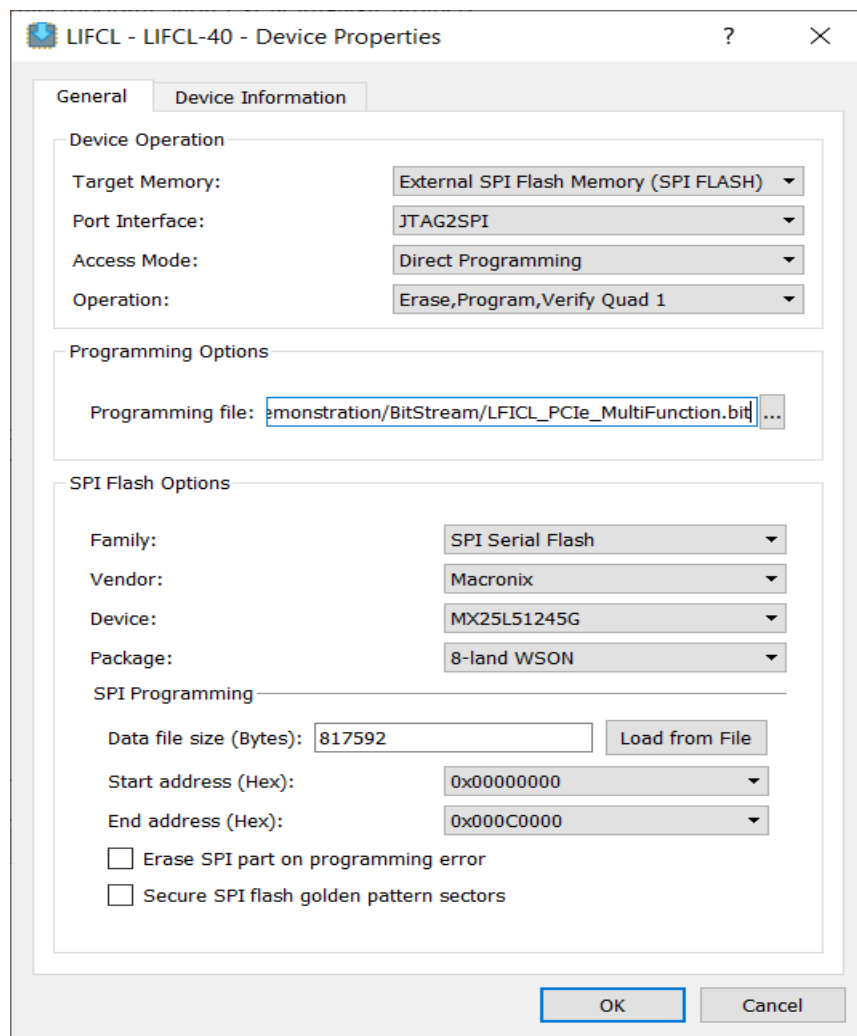
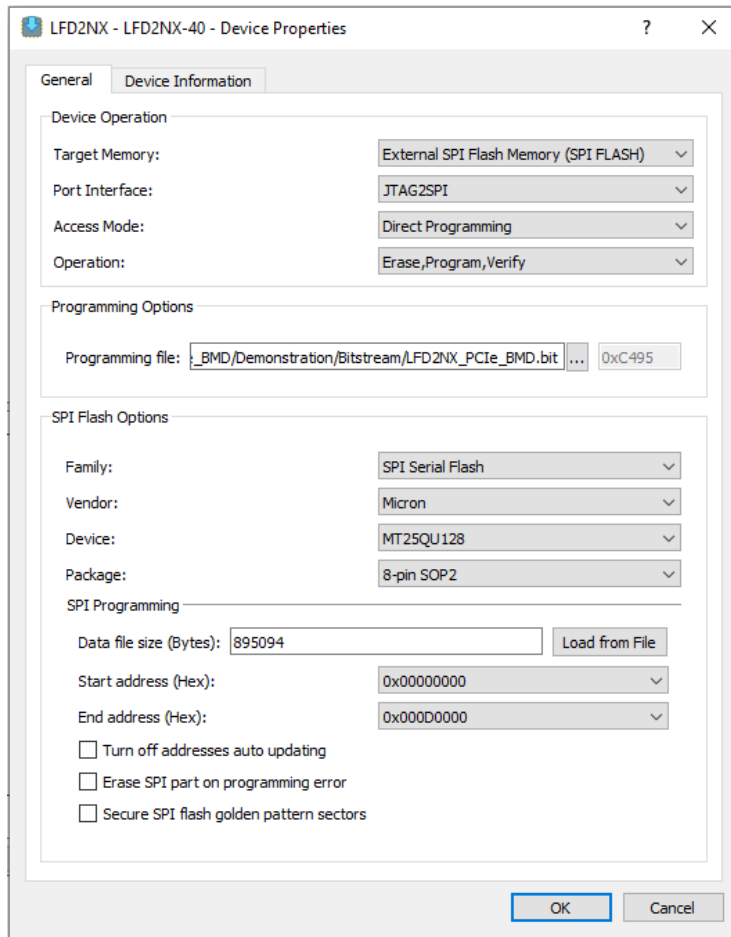
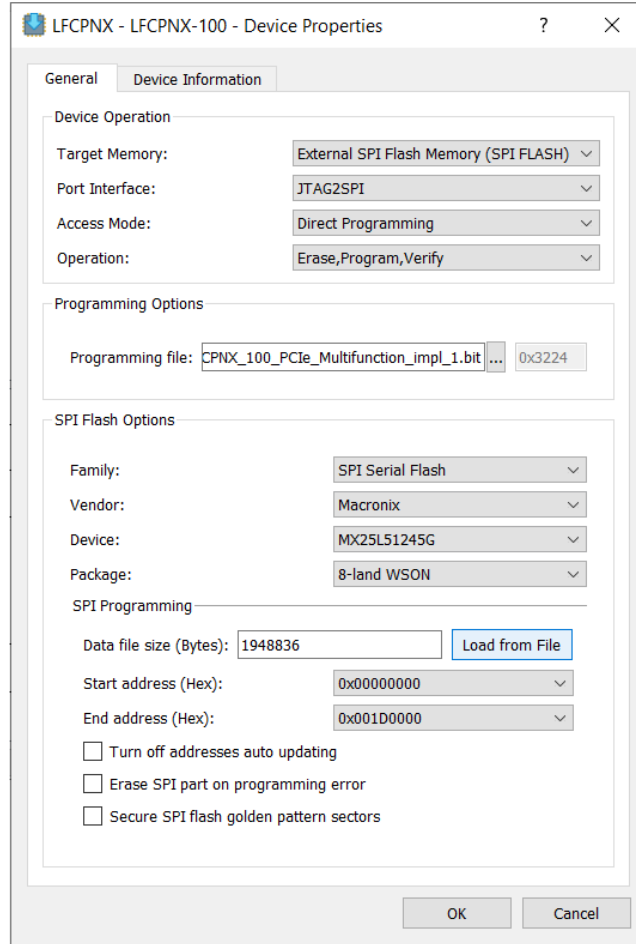

Figure 5.12. Device Properties Window for CrossLink-NX SPI Flash Programming
Figure 5.13. Device Properties Window for Certus-NX SPI Flash Programming
Figure 5.14. Device Properties Window for CertusPro-NX SPI Flash Programming (with Macronix Flash)
4. Select the settings as shown in Figure 5.12 for CrossLink-NX devices, Figure 5.13 for Certus-NX devices, or Figure 5.14 for CertusPro-NX devices.